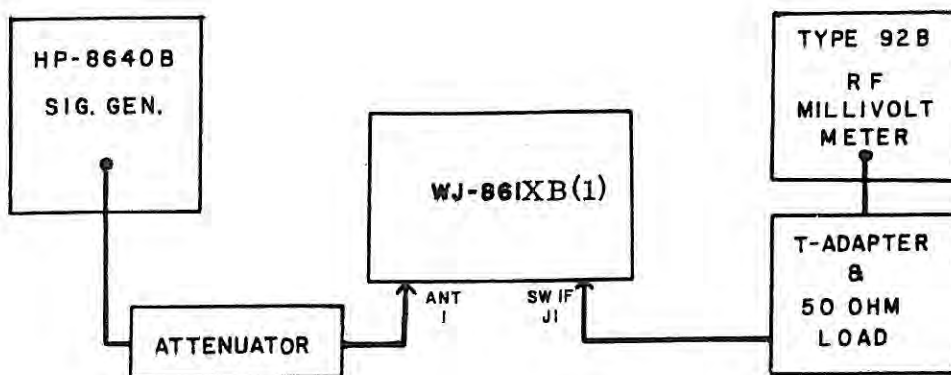

Figure S-1. Amplifier Performance Test, Equipment Connections
1. Connect the test equipment as illustrated in **Figure S-1**.
1. Connect the test equipment as illustrated in **Figure S-1** of this appendix.